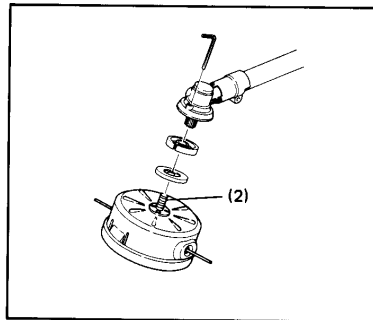
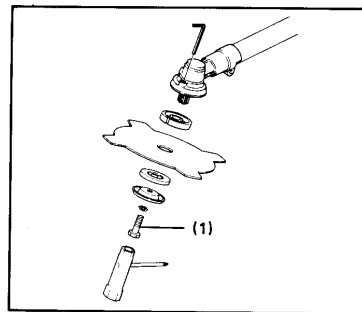

Fig. 6
Fig. 7
5. Installation of cutting attachments (Fig. 6 & 7)
1. Insert the allen-head wrench into the hole on the top of the gear case to lock the output shaft. Then install the nylon head as shown in Figure 6 or the blade as shown in Figure 7.